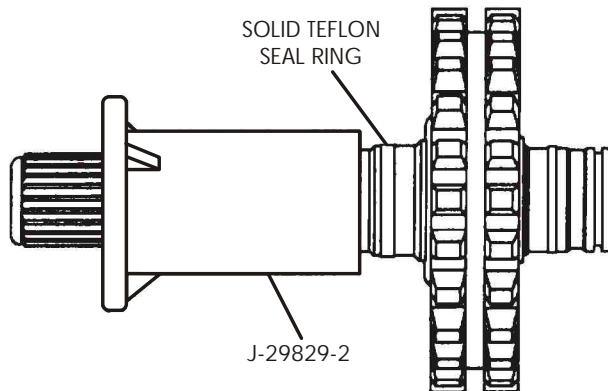

Figure 143
4. Install and re-size the solid sealing ring on the converter side of the turbine shaft, using the installation and re-sizing tools, as shown in Figure 143.